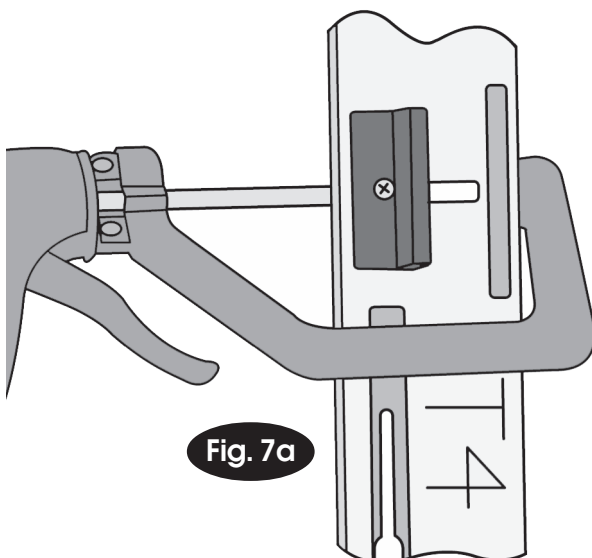

Fig. 7a
4. Secure the top jig to the door using a suitable 'G' clamp, (See Fig. 7a & 7b). Ensure the clamp does not obstruct the router path. A piece of scrap wood can be used to protect surface of the door.
6. Attach the bottom plate to the middle plate, adjust the bottom plate so that it is flush with the end of the door, tighten the wing screw and secure to the door with 'G' clamp (Fig. 7a and 7b). Ensure clamp does not obstruct router path.